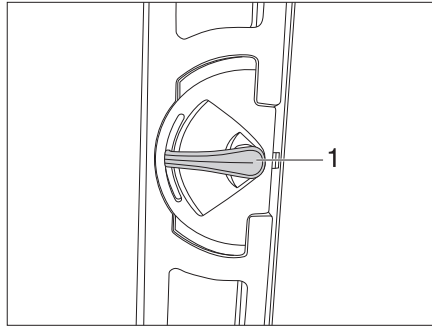
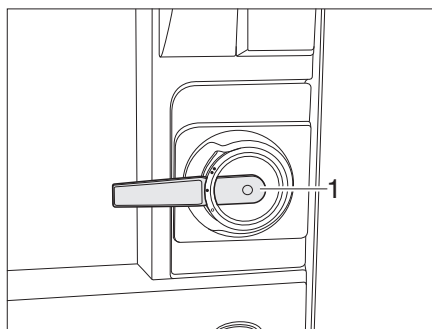

Fig. 22 Variant 1: Door lock of conversion door, inside, open
Fig. 24 Variant 2: Door lock of conversion door, inside, open
**Opening:** ■ Push the handle (Fig. 22,1 or Fig. 24,1) down.